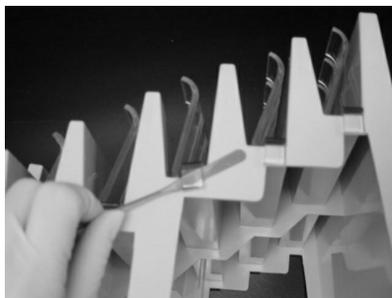

Fig. 4.2.2b. Rotate the spatula until the clamp pops off.
2. Gently lift or rotate the spatula until the clamp pops off the base on the one side (Figure 4.2.2b).